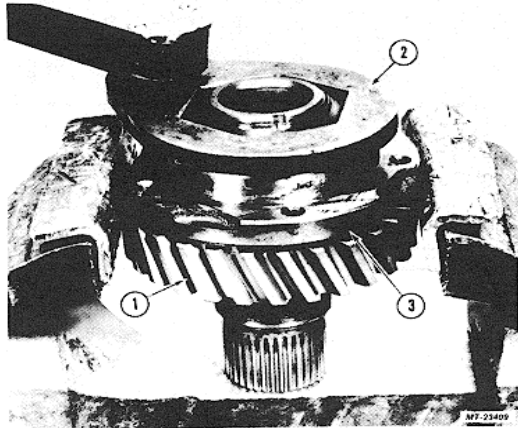

Fig. 45. Tightening Input Gear Bearing Retaining Nut (RA-351, 355 Shown RA-341 Similar)
- b. Install bearing retaining nut. Clamp gear in vise and tighten retainer nut using SE-2247 wrench (Fig. 45). Tighten to specified torque. Use punch to stake nut to gear end.
- b. Install bearing retaining nut and, using SE-2247 bearing nut wrench, tighten to specified torque (Fig. 45). Use punch to stake nut to gear end.